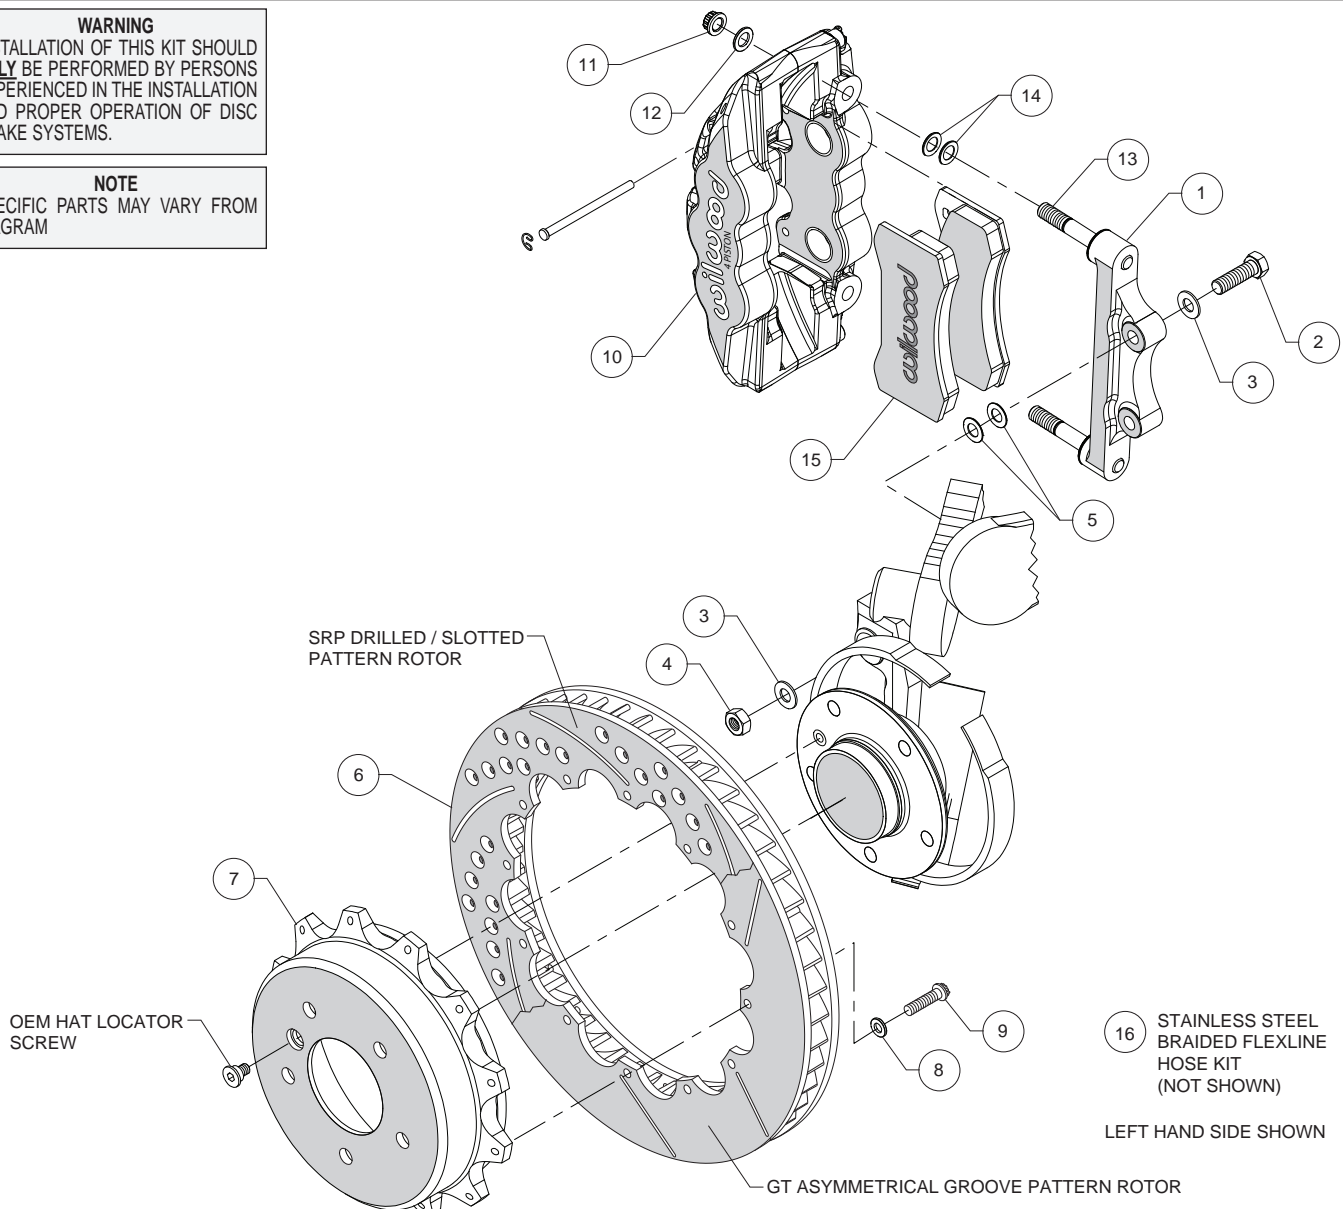
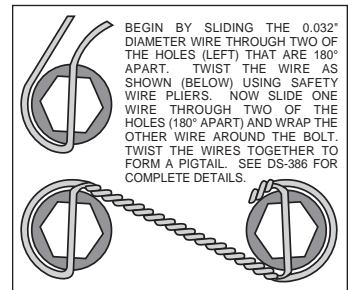

Figure 1. Typical Installation Configuration
Figure 3. Safety Wire Diagram
Assembly Instructions (numbers in parenthesis refer to the parts list and Figure 1 on the preceding pages):
- The caliper mount bracket (1) should initially be installed with clean, dry threads on the mounting bolts. Orient the bracket as shown in Figure 1, and Photo 2, and install using washers (3), bolts (2), and nuts (4). Initially place two .030" thick shims (5) on each bolt between the bracket and upright, Figure 1. Temporarily tighten the mounting bolts. **NOTE: The bracket must fit squarely against the mount bosses on the upright.** Inspect for interference from casting irregularities, machining ridges, burrs, etc. Later, after the caliper alignment has been checked, the mount bolts will be secured using red *Loctite*® 271.
- Orient the rotor (6) and the hat (7) as shown in Figure 1 and Photo 3. Attach rotor to hat using bolts (9) and washers (8). Using an alternating sequence, apply red *Loctite*® 271 to the threads, and torque to 140 **in-lbs**. For an added measure of security, the bolts may be safety wired using standard 0.032 inch diameter stainless steel safety wire as shown in Figure 3. Please refer to Wilwood's data sheet DS-386 (available at www.wilwood.com/Pdf/DataSheets/ds386.pdf) for complete safety wire installation instructions.
- Lubricate the caliper mounting studs (13) with lightweight oil. Initially place two .030" thick shims (14) on each stud as shown in Figure 1 and Photo 4. Mount the caliper (10) onto the bracket (1) using lock nuts (11) and washers (12), Figure 1. Temporarily tighten the lock nuts and view the rotor through the top opening of the caliper. The rotor should be centered in the caliper, Photo 5. If not, adjust by adding or subtracting shims (5) between the bracket and the upright. Always use the same amount of shims on each of the two mounting bolts. Once the caliper alignment is correct, remove the bracket mounting nuts (4) one at a time, apply red *Loctite*® 271 to the threads, and torque to 40 ft-lb.
- Remove the two pad retaining pins from the caliper by carefully popping out the pin retaining clips and sliding out the pins. Insert the brake pads (15) into the caliper from the bottom, Figure 1, and Photo 6, with the friction material facing the rotor and secure the brake pads in place with the pad retaining pins and clips, Photo 7. Reinstall the caliper onto the caliper mounting bracket and temporarily tighten the lock nuts. Check that the top of the brake pad is flush with the outside diameter of the rotor, Photo 8. If not, adjust by adding or subtracting shims (14) between the caliper and the bracket. After the caliper pad height is set, torque the caliper lock nuts (11) to 47 ft-lb.